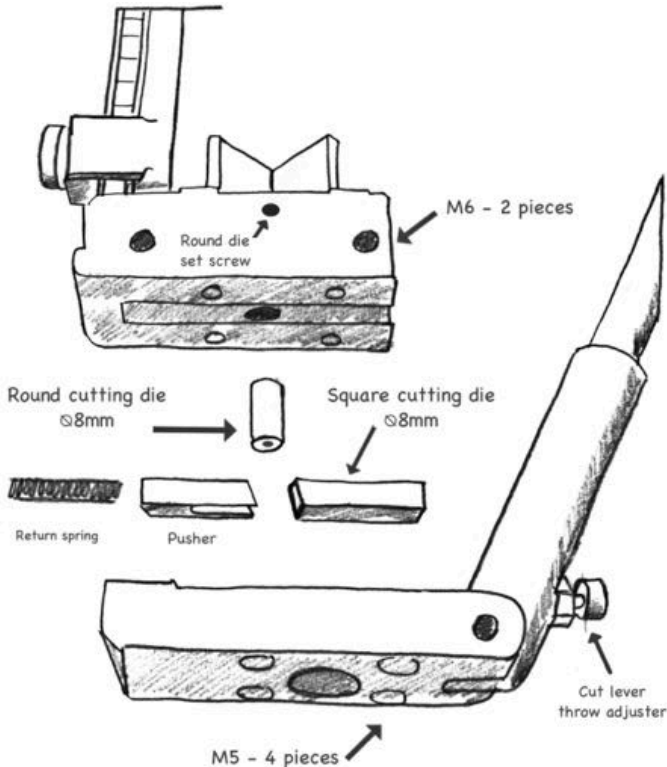

fig 9 - inside the cutting assembly
- 2/ Open the Cutting Unit (fig 9) by removing 4 M5 screws. The square die (shear) is in a slot with a spring and pusher. It can be lifted out.